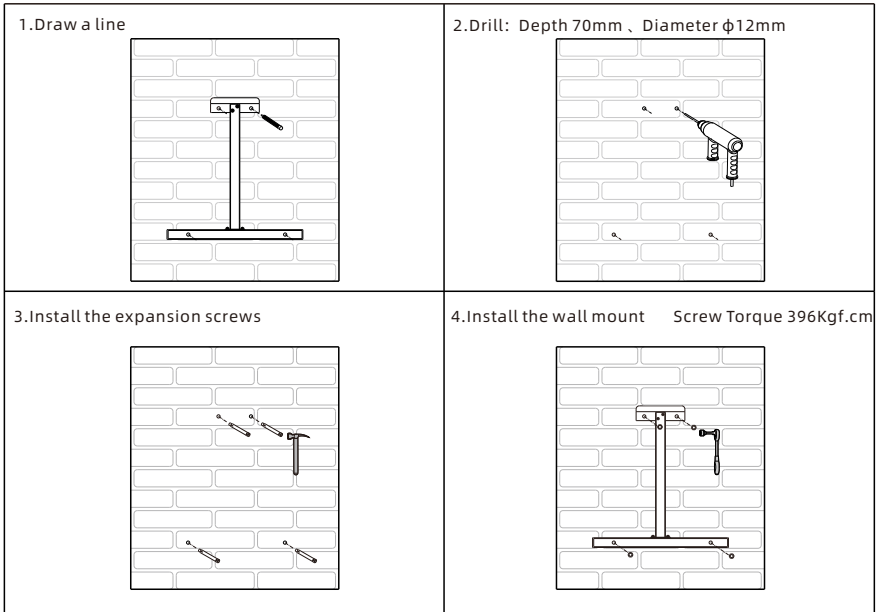

Fig 5.9
STEP 1: Use the wall mount plate as a template, drill holes into the wall and insert the expansion bolts as Fig 5.9 show.